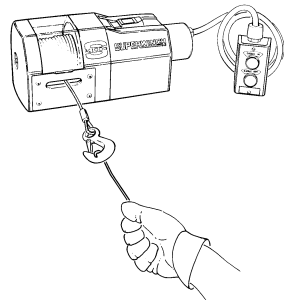

Figure 3
6. **NEVER WINCH WITH LESS THAN 5 TURNS** of wire rope **AROUND THE WINCH DRUM** since the wire rope end fastener will **NOT** withstand a load. **ALWAYS USE THE HANDSAVER BAR** when guiding the wire rope in or out (see Figure 3).